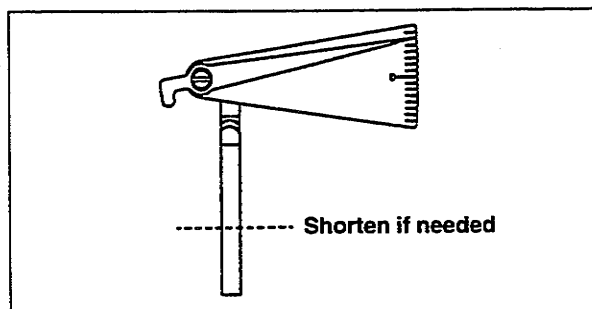

Fig. 5
- Flag indicator from TT146 may need to be shorten (Fig. 5).